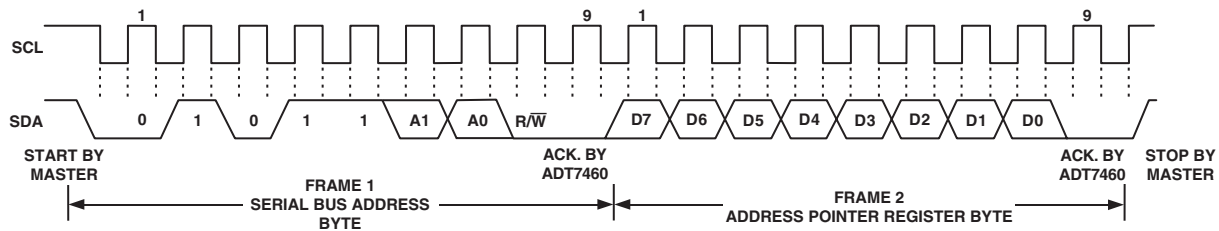
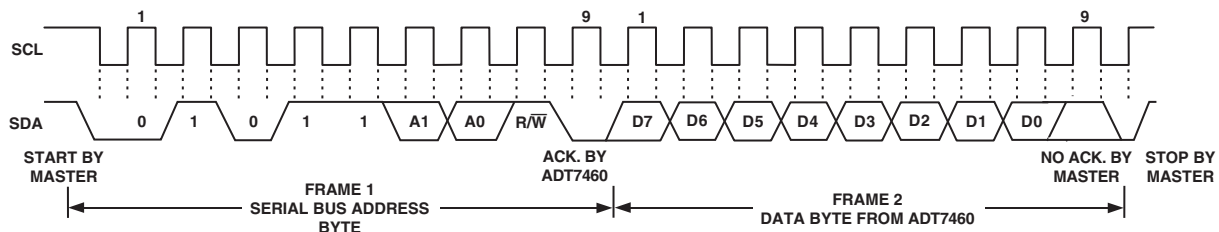

Figure 8. Writing to the Address Pointer Register Only
Figure 9. Reading Data from a Previously Selected Register
1. If the ADT7460's Address Pointer Register value is unknown or not the desired value, it is first necessary to set it to the correct value before data can be read from the desired data register. This is done by performing a write to the ADT7460 as before, but only the data byte containing the register address is sent as data is not to be written to the register. This is shown in Figure 8. A read operation is then performed consisting of the serial bus address,  $R/\overline{W}$  bit set to 1, followed by the data byte read from the data register. This is shown in Figure 9.
2. If the Address Pointer Register is known to be already at the desired address, data can be read from the corresponding data register without first writing to the Address Pointer Register, so Figure 8 can be omitted.